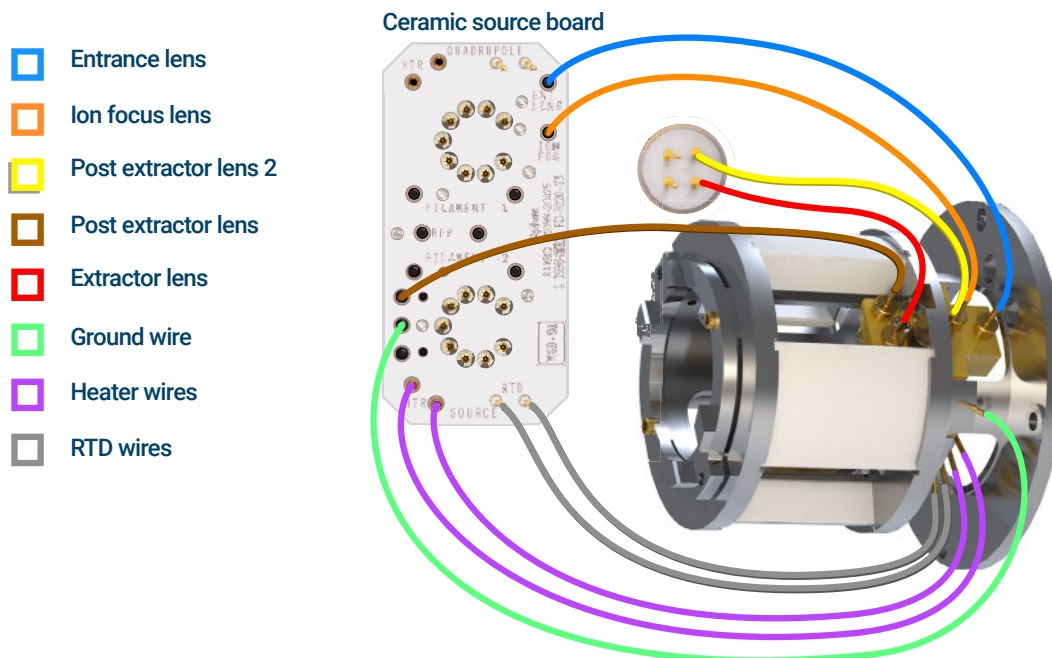

Figure 69. HES radiator wiring
- 1 Use tweezers or needle nose pliers to connect or disconnect the green ground wire and the five lens wires from the radiator. Do not bend the wires any more than necessary. (See **Figure 69.**)